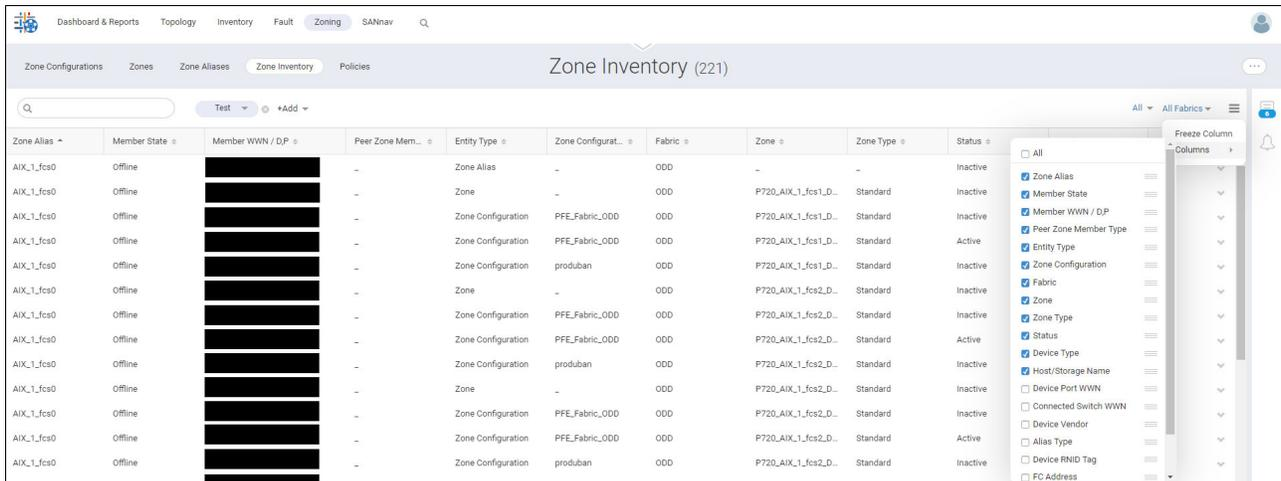

Figure 5-55 Exporting Zone Inventory
2. You can apply quick filters, filters, or search filters to view zone inventory data. You can also go to the Zone Inventory window from the Zone Summary Widgets window by using the **Filter by this Item** option. You can customize the columns that you want to export to the CSV. You can export all matching zone inventory data to the CSV file, as shown in Figure 5-55.